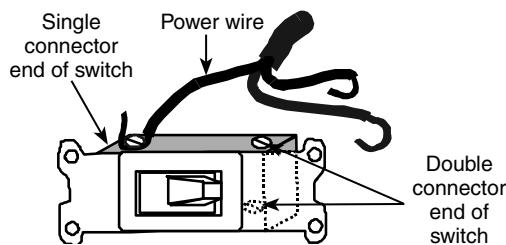

Figure 8-15
6. Connect that power wire to the single contact at one end of the switch. Figure 8-15 illustrates this step. If that contact had the original single wire on it, take it off, unless it's the power wire.